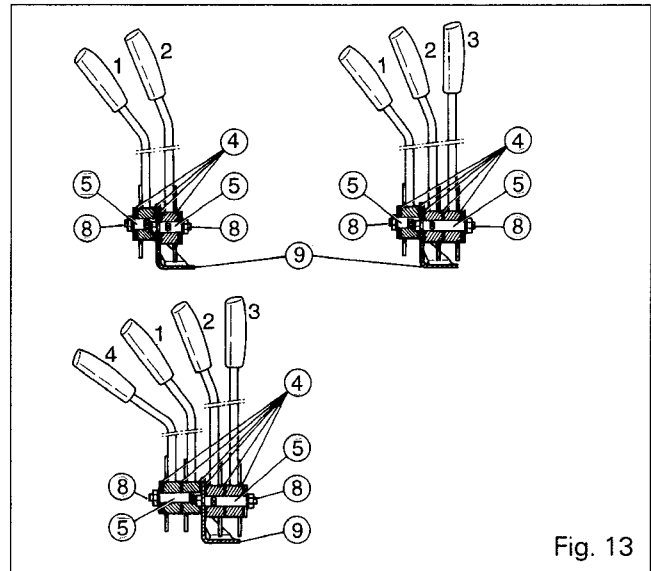

Fig. 13
**Hydraulics - Auxiliary spool valves****G. Fitting and adjusting the control cables****Points to note : Fig.13**